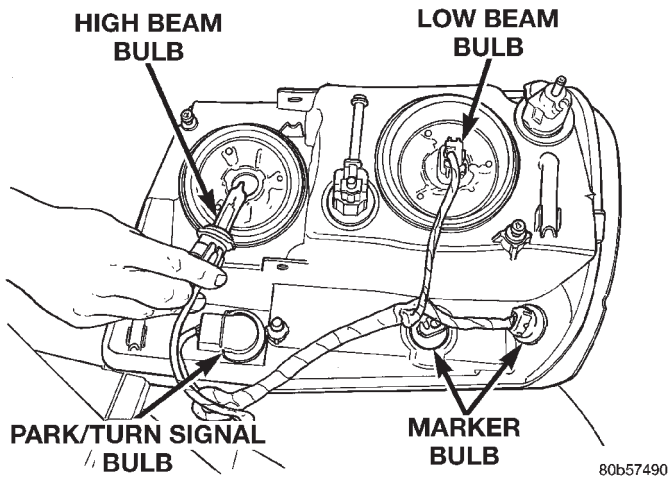

Fig. 1 Headlamp Bulb
- (1) Remove headlamp.
- (2) Turn bulb socket one quarter turn counter clockwise.
- (3) Remove socket from lamp (Fig. 1).
- (4) Pull bulb from socket.